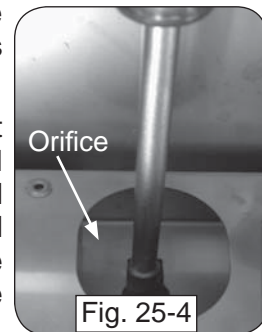

Fig. 25-4
5. Use a  $\frac{3}{8}$ " hex nut driver to remove the exposed orifice (Fig. 25-4) and replace it with the correct orifice for the new gas. (See Table 1 at the beginning of this document for orifice sizes.)